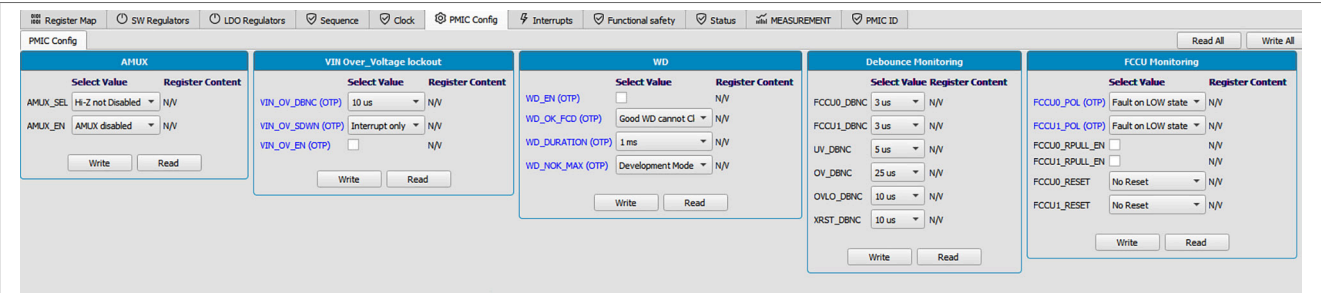

Figure 83. ACCESS tool
4. Go to ACCESS→PMIC Config→WD and configure WD_NOK_MAX(OTP) with Development mode. Figure 83 shows the location of the watch dog parameter to update in ACCESS tool: